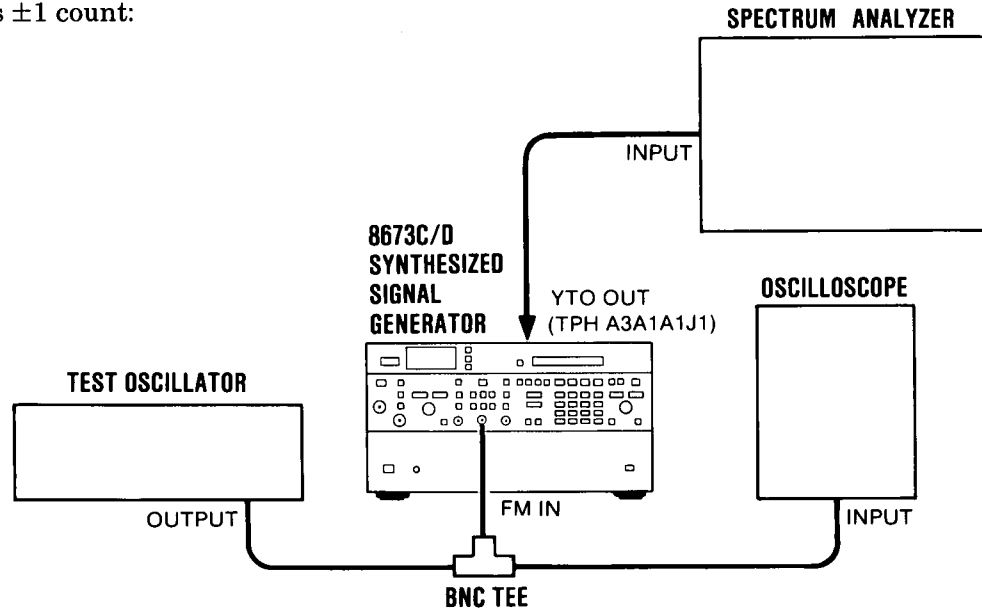

Figure 8-21. HP 8673C/D FM Test Setup
37. With frequency counter connected as in Figure 8-21, measure the frequency at the following test points:
46. Press FM DEVIATION MHz .3 and MTR FM pushbuttons and verify both LEDs light. Connect the test equipment as shown in Figure 8-21.